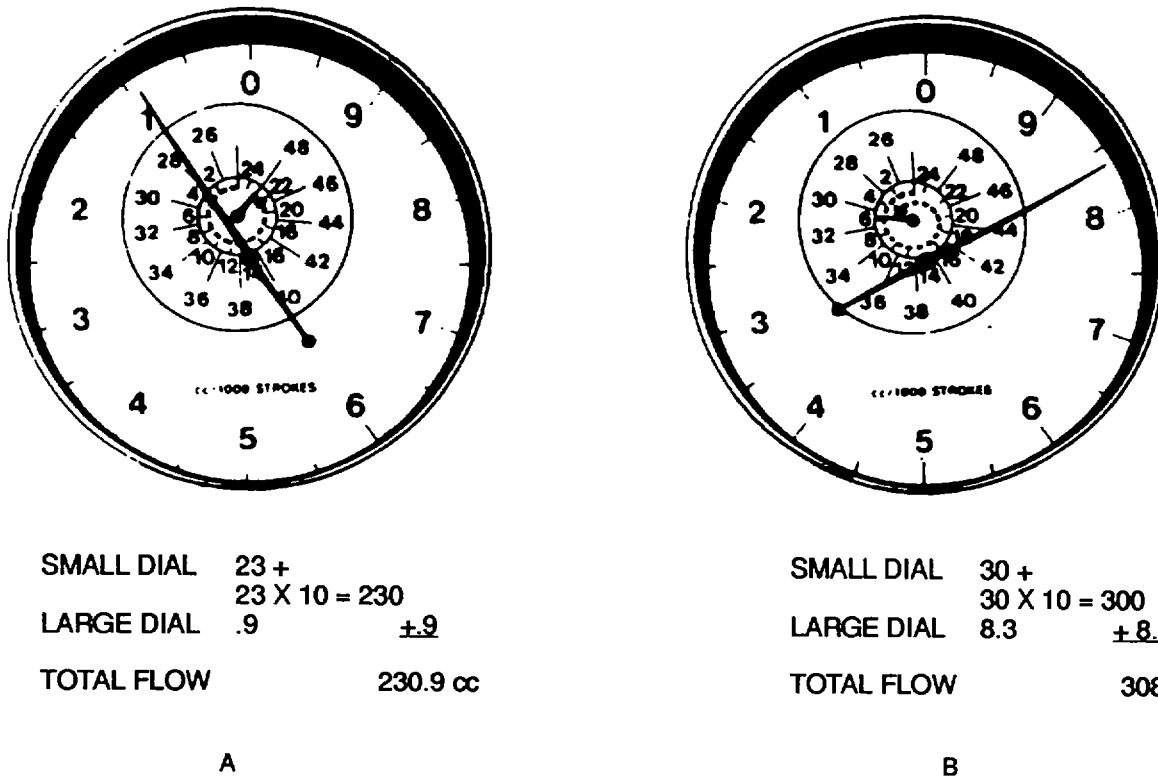

Figure 6-29. Calculating Dial Indicator Reading
- (13) Allow the indicator readings to stop, raise the fuel arm (21), and allow the motor to stop.
- (14) Press the metering button, then return the dial indicator (2) to zero using the ZERO SET screw within one minute.
- (15) Lower the fuel arm (21) to restart the drive, press the metering button, and watch the small hand on the dial indicator (2) to see if it makes more than one revolution.
- (16) Repeat steps (13), (14), and (15), above, until at least two identical indicator readings are obtained.
- (17) Interpret the dial indicator (2) readings as follows (see Figure 6-29).
- (a) If the small hand has made less than one revolution, (A, Figure 6-29), use the figures on the inner dial (2 to 24).
- (b) If the small hand has made more than one revolution (B, Figure 6-29), use the figures on the center dial (26 to 48).
- (c) Multiply the reading of the small hand by 10, and add the reading of the large hand (outer dial) as shown in Figure 6-29. This figure is the injector flow in cc/1 000 strokes.